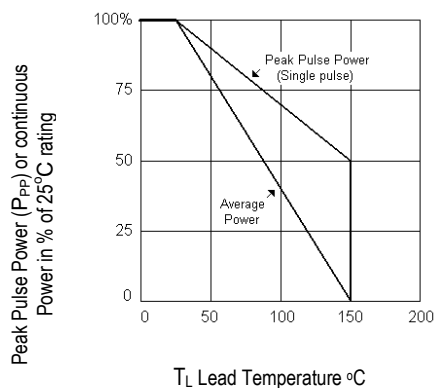

FIGURE 2
- Peak Pulse Power dissipation at 25 °C: 65 kW at @ 6.4/69 μ s per waveform in Figure 8 (derate per Figure 2) with impulse repetition rate (duty factor) of 0.01 % max